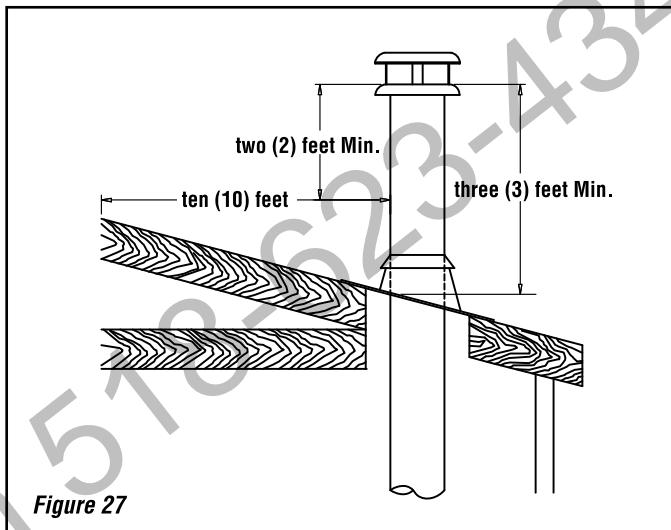

Figure 27
7. The chimney must extend at least three (3) feet (915 mm) above its point of contact with the roof and at least two (2) feet (610 mm) higher than any wall, roof or building within ten (10) feet (3m) of it (*Figure 27*).
8. If the chimney extends higher than five (5) feet (1,500 mm) above its point of contact with the roof, it must be secured using a roof brace.